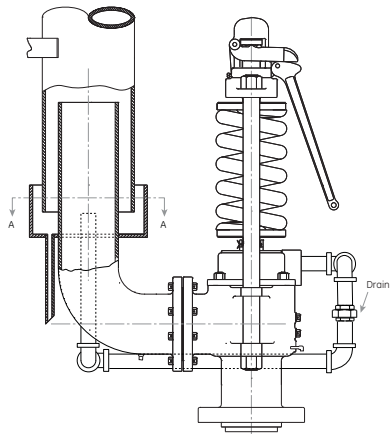

Figure 10: Recommended Installation
- The coverplate can be vented to atmosphere as shown in Figure 10. Precautions should be taken to vent the coverplate in such a manner that it will exhaust into a safe area to prevent injury to personnel near the valve. The coverplate vent drain must not be connected to the body drain piping.